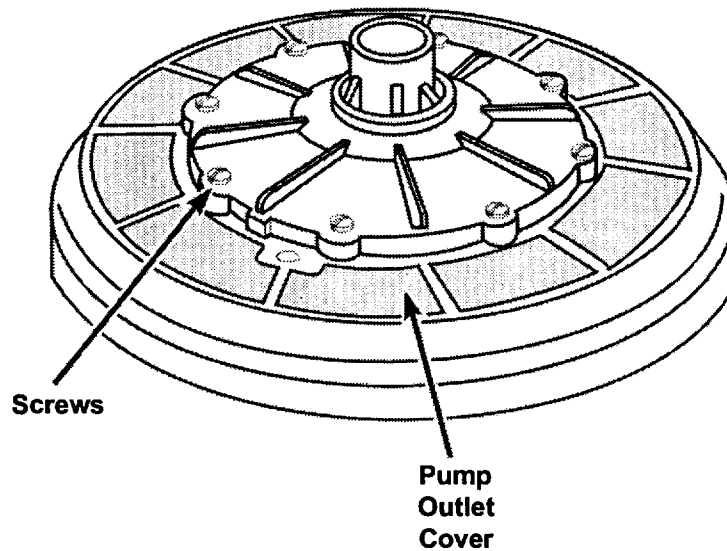

Fig. 19
15. Replace the pump outlet cover. Make sure it is seated properly over the locator tabs on the separator. Be careful to avoid stripping the screws. Turn each screw counterclockwise until you can feel the threads backing off or bumping off each other. Then turn clockwise to engage. Finish tightening the eight (8) Torx screws. (Fig. 19)